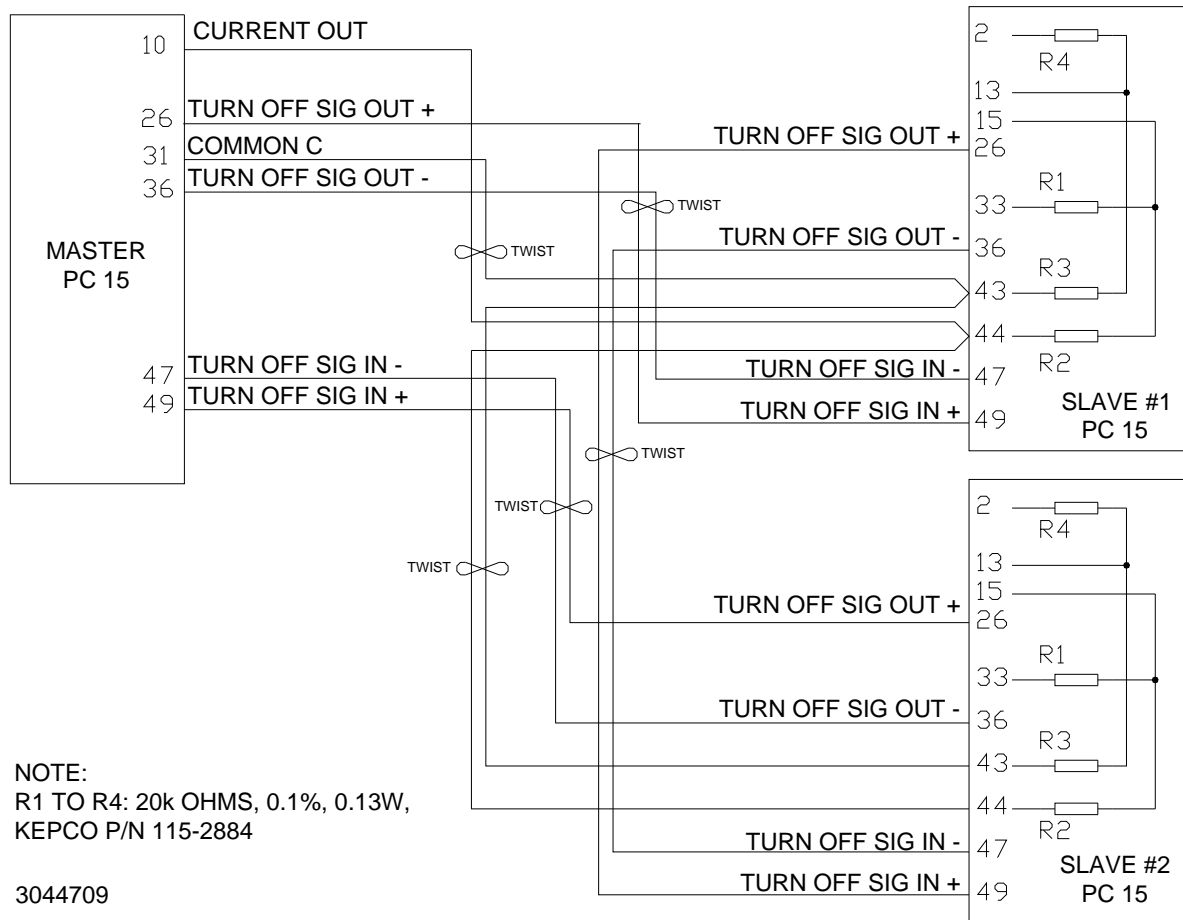

FIGURE 1. PARALLEL CONNECTION CABLE FOR LOCAL CONTROL OF MASTER/SLAVE TRIO
- The MASTER, SLAVE 1 and SLAVE 2 PC 15 connectors are wired as shown in Figure 1.